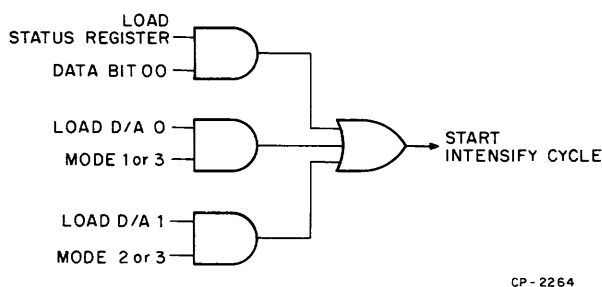

Figure 2-1 Intensify Logic Simplified
The INTENSIFY (Z) pulse can be initiated in four ways, as determined by bits 02 and 03 in the Display Status register (refer to Figure 2-1).